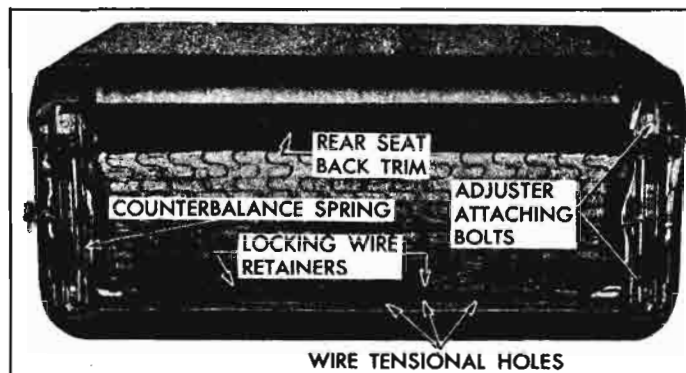

Fig. 10-71—Seat Adjusters Assembled to Front Seat
- Remove seat adjuster counter balance spring attached to seat adjuster front support and seat bottom frame as shown in Figure 10-71.
2. Remove hog rings securing central portion of lower rear edge of seat back trim from front seat cushion spring assembly (see Figure 10-71).